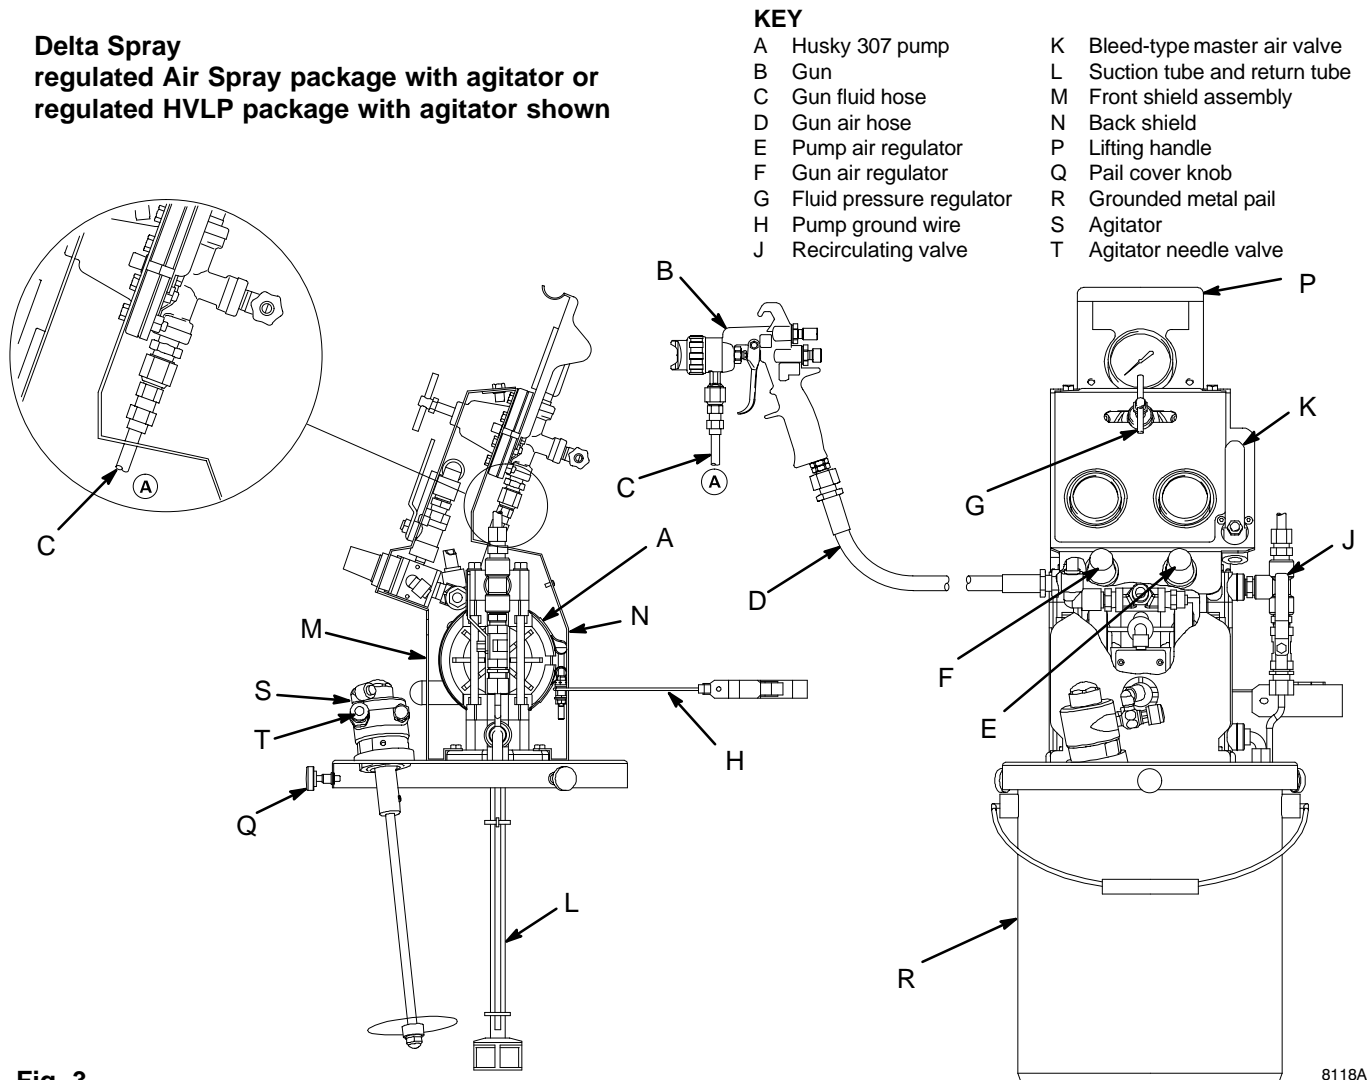

Fig. 3
## Pressure Relief Procedure *See Fig. 3*
*See Fig. 3*
**NOTE:** The pump air regulator knob (E) and gun air regulator knob (F) have a locking feature. To unlock the knobs, pull out on them. You will feel them click out. To lock them at the desired setting, push them back into the locked position.
See *Fig. 3*
## Systems with Agitator *See Fig. 3*
## Priming the System *See Fig. 3*
See Fig. 3
Flush the system as follows (See Fig. 3):